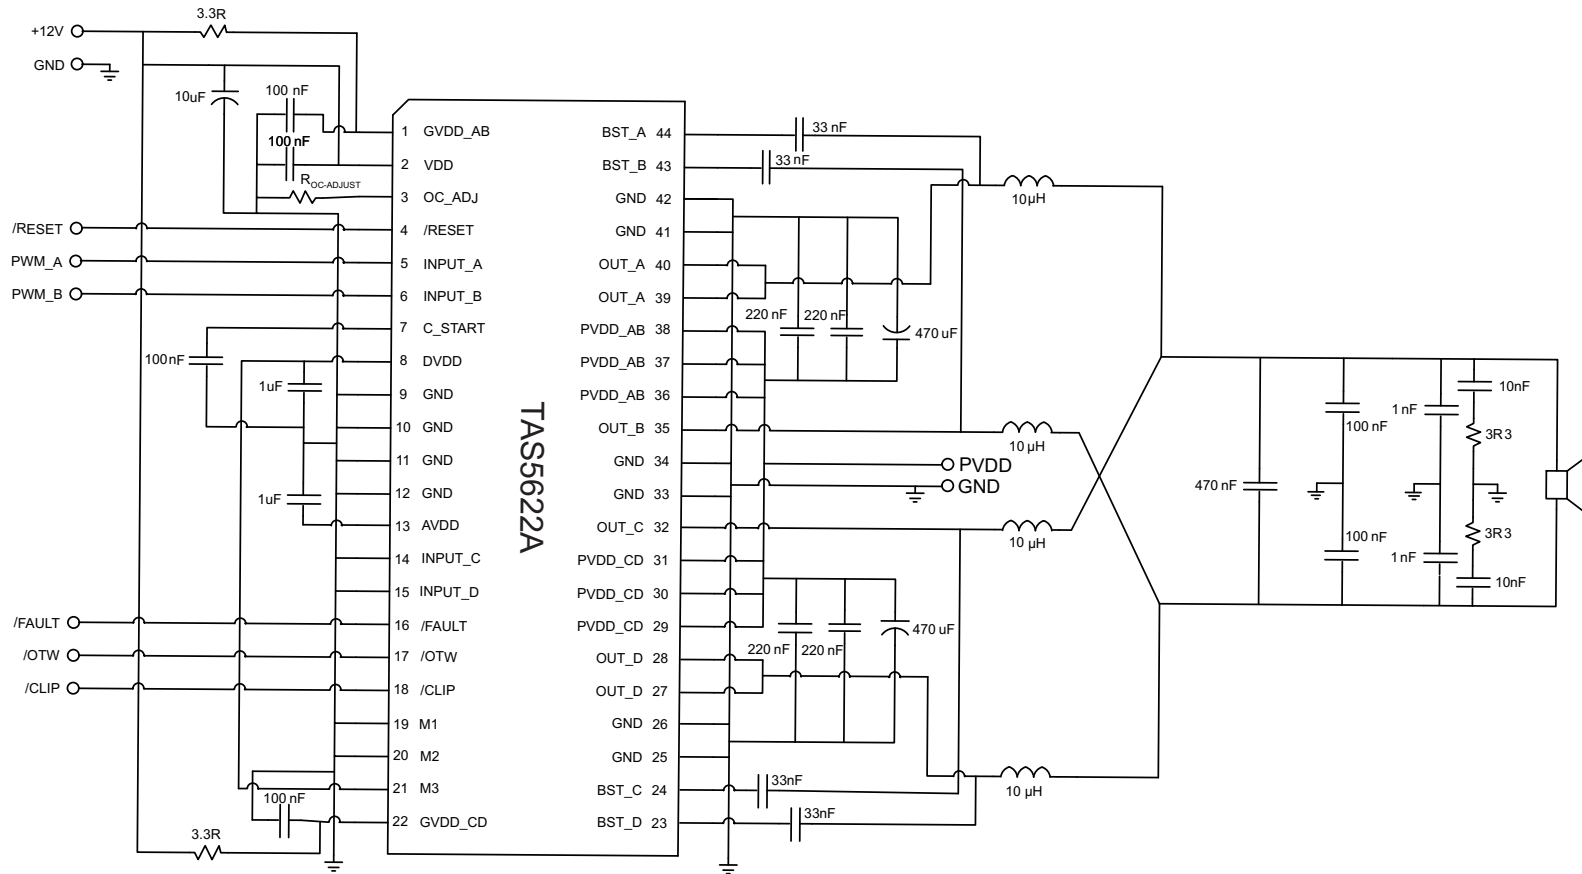

Figure 22. Typical Differential (2N) PBTL Application With AD Modulation Filter
See Figure 22 for application schematic. In this application, one differential PWM input is used with AD modulation from the PWM modulator such as the TAS5558. AD modulation scheme is defined as PWM(+) is opposite polarity from PWM(-). The output PBTL configuration is often used to drive lower impedance load such as a subwoofer.
- Pins 27, 28, 32, 35, 39, 40 - Output pins from half-bridges A, B, C, and D. Connect appropriate bootstrap capacitors and differential LC filter as shown in Figure 22.
- Pins 29, 30, 31, 36, 37, 38 - Power supply pins to half-bridges A, B, C, and D. A and B form a full-bridge and C and D form another full-bridge. A 470-μF bulk capacitor is recommended for each full-bridge power pins. Two 0.22-μF decoupling capacitors are placed on each full-bridge power pins. See Figure 22 for details.